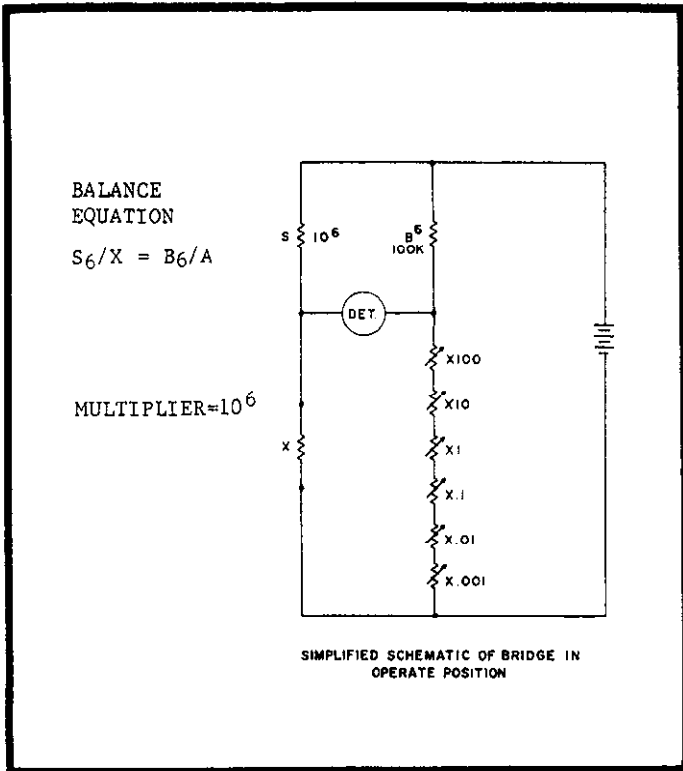

FIGURE 8.
7. A simplified bridge circuit with FUNCTION switch in OPERATE and resistance multiplier 10^6 is shown in Figure 8.